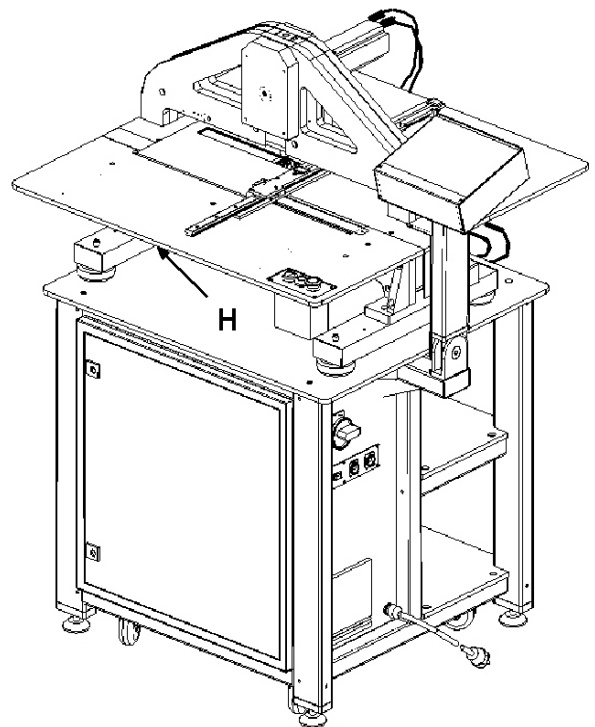

Figure 7: Puma complete
14. lift the embossing unit from the palette (use bar through eye bolt 'G') and place it on the electric cabinet (Figure 7)